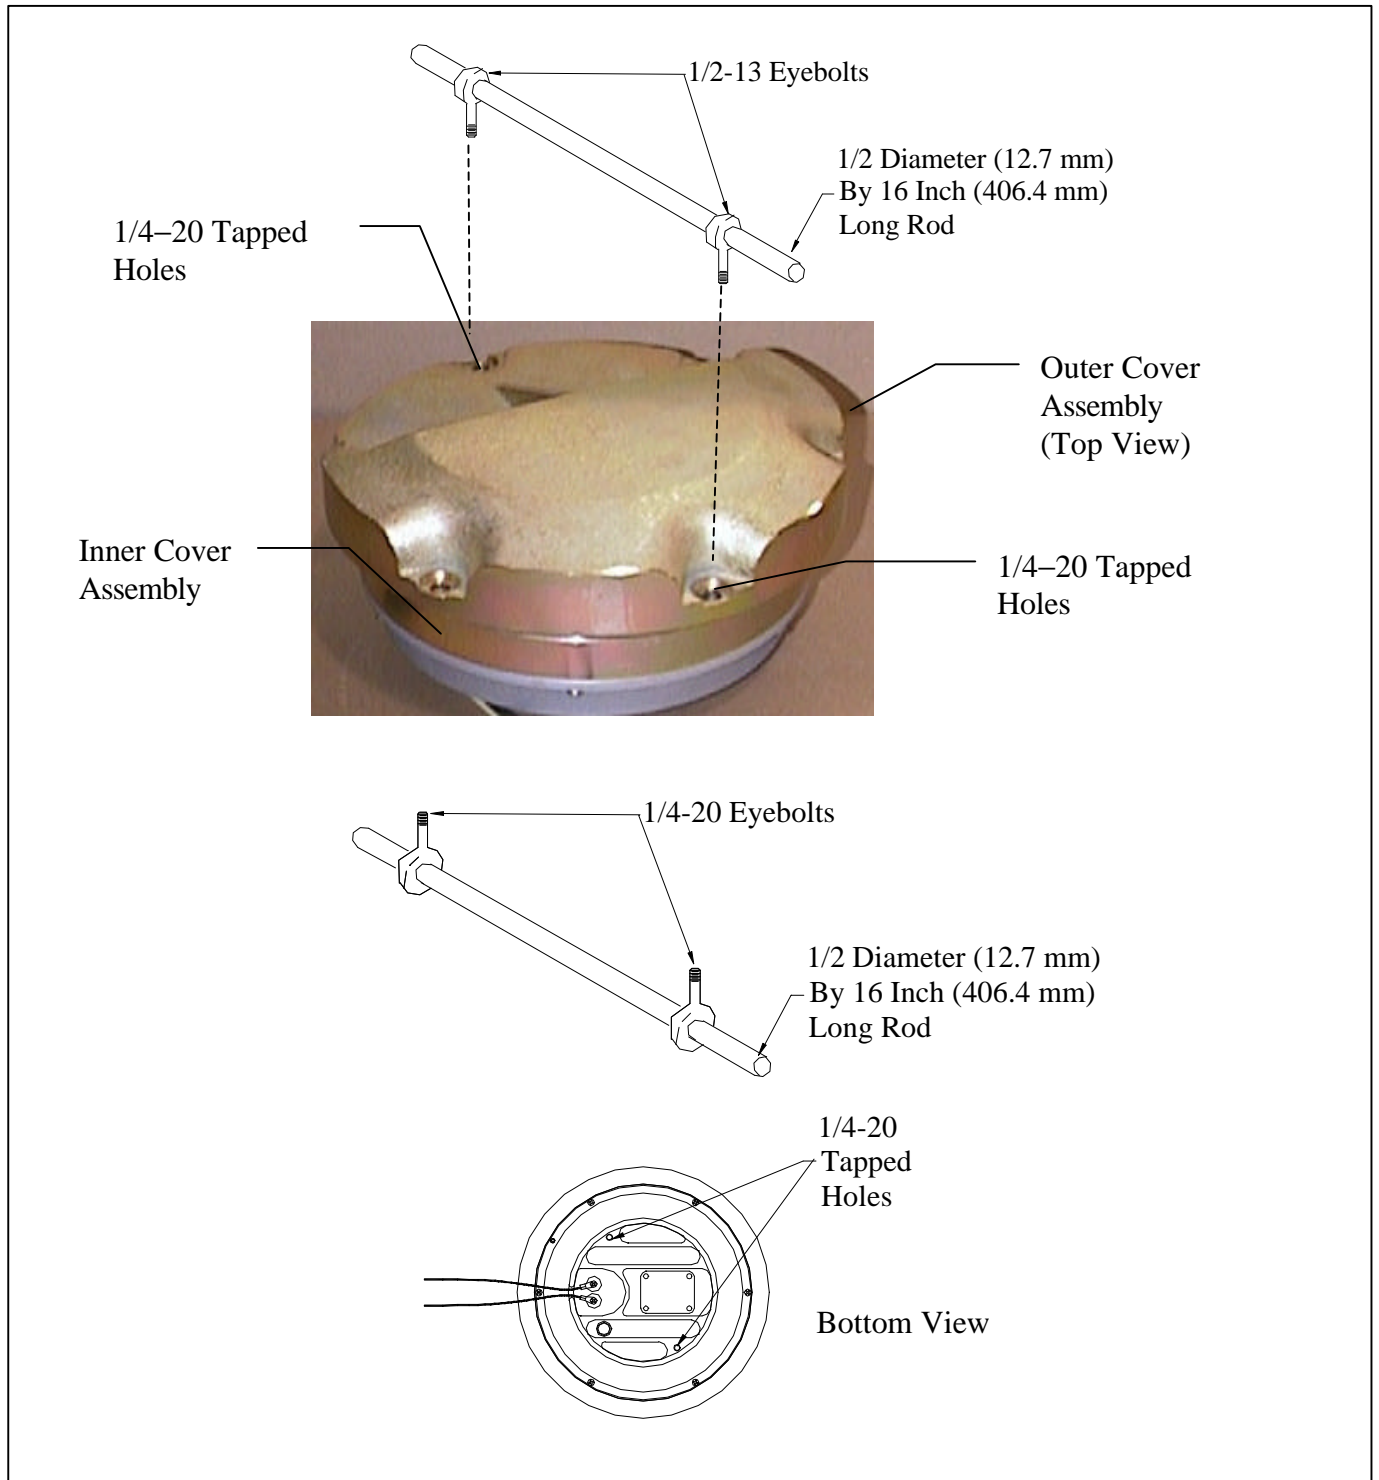

Figure 11. Placing Lifting Rods
1. See Figure 11. Thread one 1/2–13 eyebolt in each of two opposite tapped holes on the L-850E cover assembly.
2. See Figure 11. Thread two 1/2–13 eyebolts in the two opposite tapped holes on the cover assembly that are 180 degrees apart.